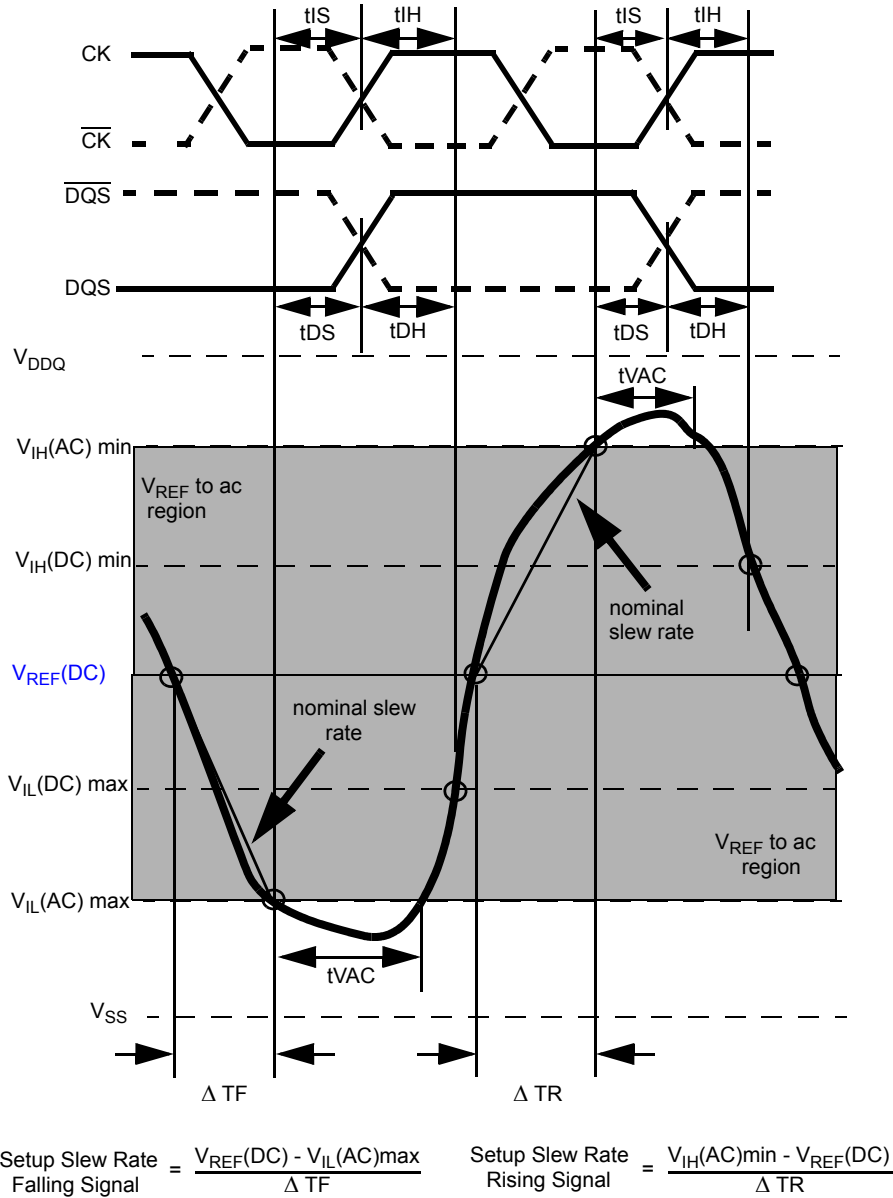
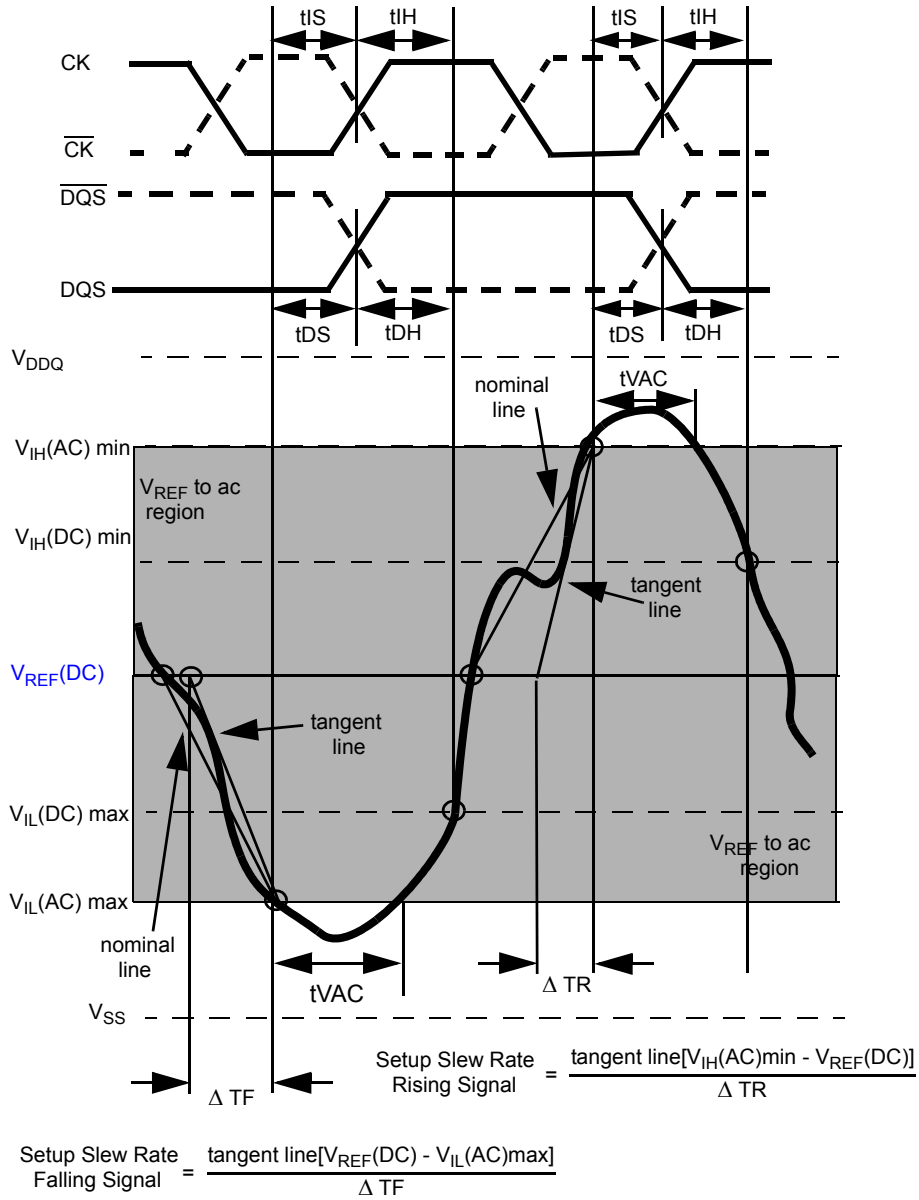

Figure 21. Illustration of nominal slew rate and t_{VAC} for setup time t_{DS} (for DQ with respect to strobe) and t_S (for ADD/CMD with respect to clock).
Figure 23. Illustration of tangent line for setup time t_{DS} (for DQ with respect to strobe) and t_{IS} (for ADD/CMD with respect to clock)
Example: tIS (total setup time) = tIS(base) + ΔtIS Setup (tIS) nominal slew rate for a rising signal is defined as the slew rate between the last crossing of V_{REF}(DC) and the first crossing of V_{IH}(AC)min. Setup (tIS) nominal slew rate for a falling signal is defined as the slew rate between the last crossing of V_{REF}(DC) and the first crossing of V_{IL}(AC)max. If the actual signal is always earlier than the nominal slew rate line between shaded 'V_{REF}(DC) to ac region', use nominal slew rate for derating value (see Figure 21). If the actual signal is later than the nominal slew rate line anywhere between shaded 'V_{REF}(DC) to ac region', the slew rate of a tangent line to the actual signal from the ac level to dc level is used for derating value (see Figure 23).